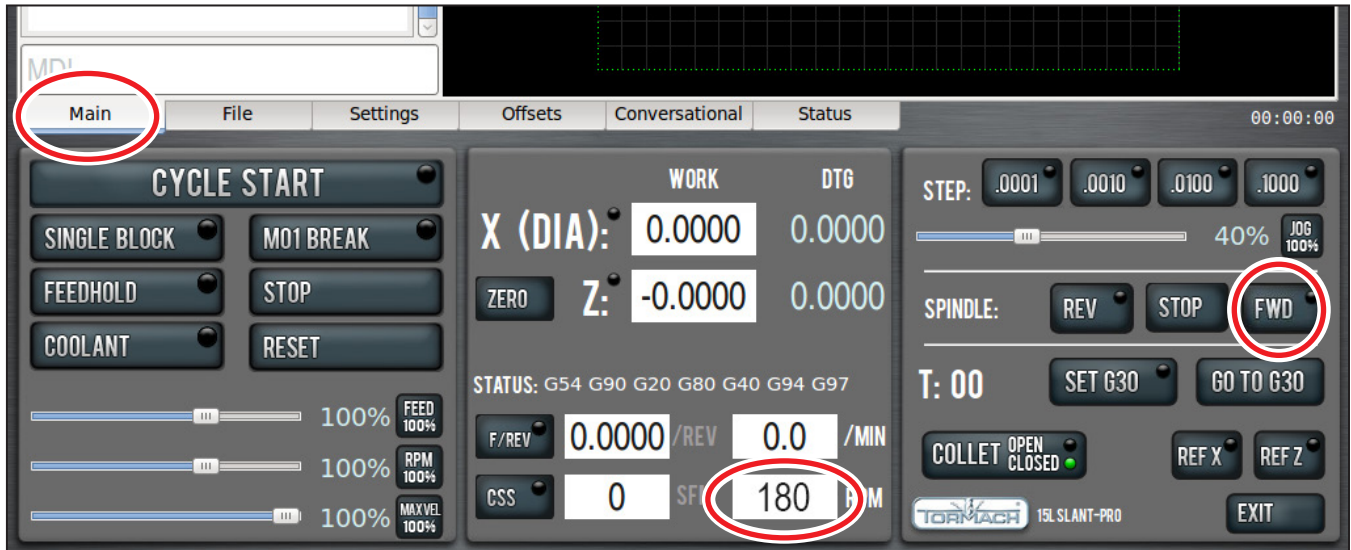

Figure 3.1
2. On the *Main* screen in the PathPilot interface, set chuck speed by entering 180 in the RPM field (see **Figure 3.1**).
3. Click Spindle *FWD* to start spindle rotation (see **Figure 3.1**).